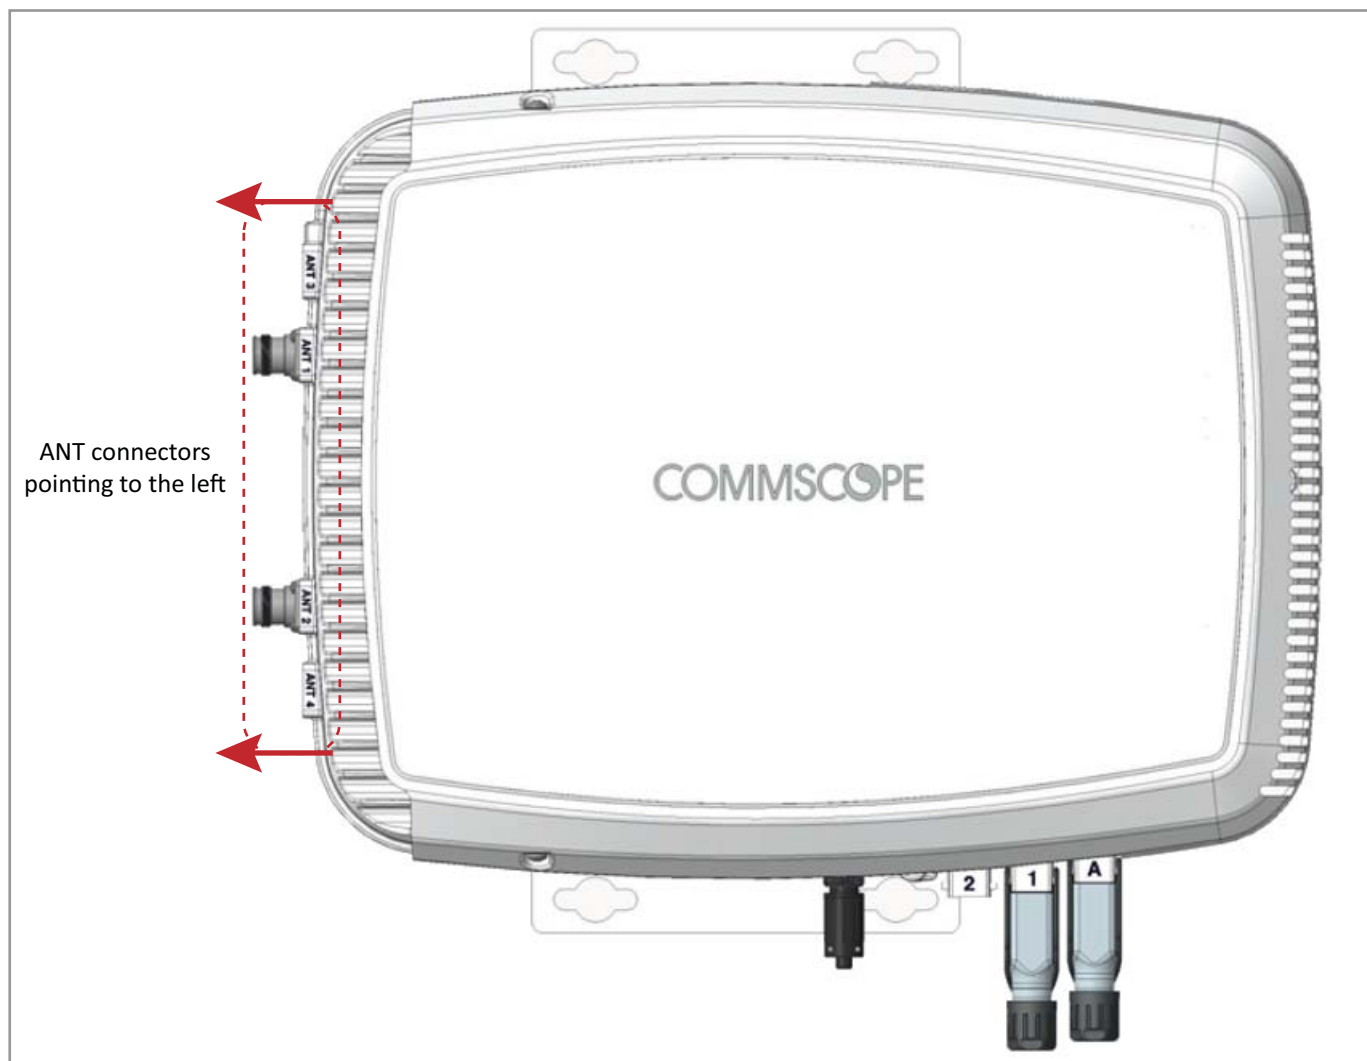

Figure 8. Mounting Orientation for a CAP L with the Optional Fan Kit (Flat Mounting Bracket Shown)
- **Wall Mount Orientation for a CAP L with a Fan Kit**—To allow for optimal access to the CAP L cables, it is recommended that a CAP L with the Fan Kit option be mounted with the ANT ports are pointing to the left; see Figure 8.